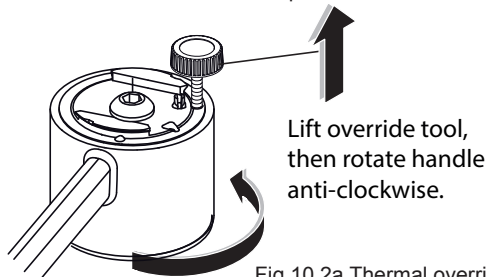

Fig 10.2a Thermal override tool
2. Screw the override tool fully into the threaded port on top of the handle, see fig 10.2a